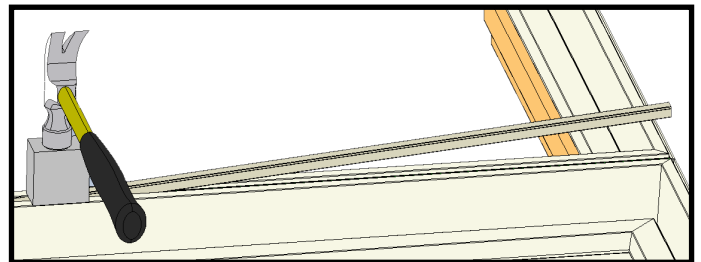

Figure 7
- I. Using a hammer and UHMW/wooden block, hammer the mull cover flush with the frame exterior (figure 7).